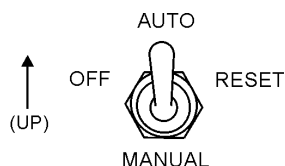

Figure 39. Off/Manual Auto Switch in 'AUTO'
2. Place the Off/Manual/Auto Switch (Figure 39) in the **AUTO** position (UP). The generator is now in the "Auto" position and is monitoring commercial power. When commercial power falls below a specified level, the engine will begin to crank. When commercial power is restored, the generator will shutdown until the next power failure.